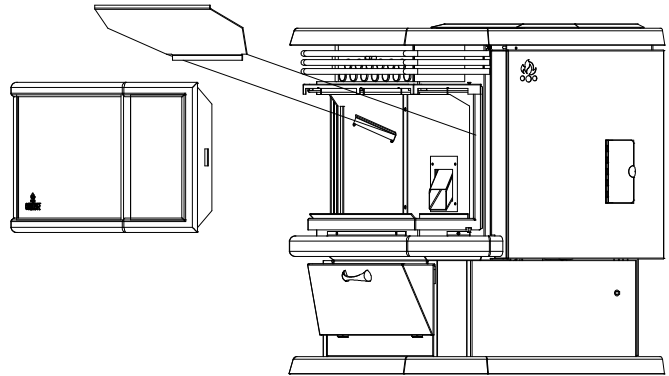

FIGURE 18
- c. With the door closed, clean heat exchanger tubes by activating the cleaning rod back and forth from front to back. (see Cleaning section and Figure 18 & 19) .